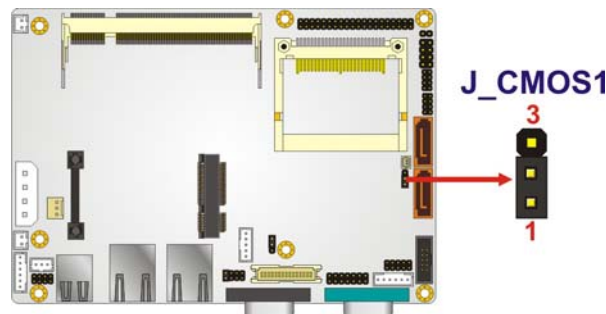

Figure 3-20: Clear CMOS Jumper
- Jumper Location:** See Figure 3-20
The location of the clear CMOS jumper is shown in **Figure 3-20** below.